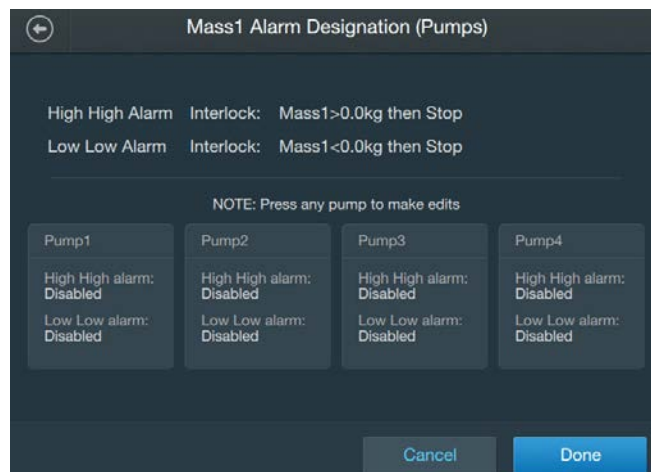

Figure 3.24. Mass Alarm Designation (Pumps) screen.
14. On the screen that appears (Figure 3.24), you will see the interlock and hysteresis parameters you entered for the High High and/or Low Low alarm(s). Underneath, the agitation, pumps, or pinch valves that have been set up with the system will be shown, depending on the alarm designation field you selected on the Mass Configuration screen. Touch a **pump**, **pinch valve**, or **agitation** to enable or disable High High and Low Low alarms.
Note: Figure 3.24 shows options for the “Alarm Designation (pumps)” selection.